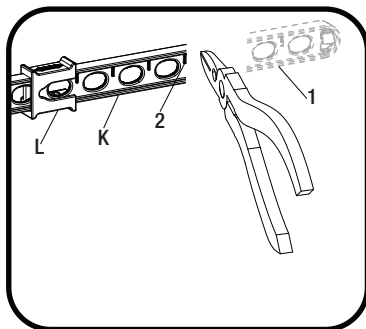

Fig. 2
- Once you have identified the proper hole in the lift rod strap (K) that is necessary for your installation, you may cut off the bottom portion (1) of the lift rod strap (K) by snapping it off with pliers or cutting it off with a saw at the cutting point (2), as shown in Fig. 2. Ensure the clip (L) does not slide off the lift rod strap (K).